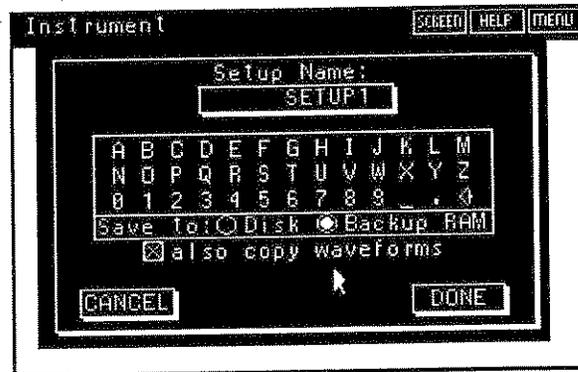
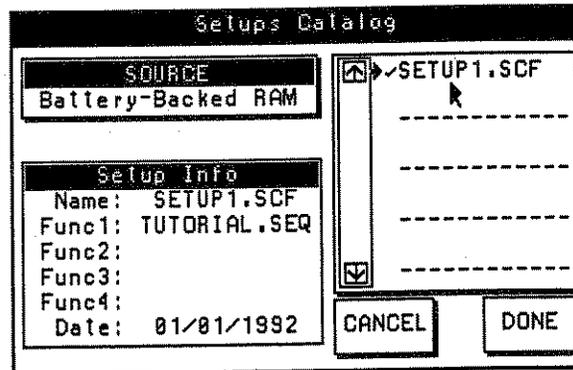

Figure 4-66. Setup Name
Figure 4-67. Setups Catalog
Selecting Store from the list saves the current complete instrument setup including system settings and all Arb Channel settings. If any of the Arb Channels use the Functions: Waveform or Sequence, the Stored Setup does not automatically store the Waveform or Sequence on the Arb Channel. However, selecting "also copy waveforms" in Figure 4-66 will ensure that stored waveforms are located at the same destination as the stored setup so that they can be found. For example, if a Waveform is stored on a disk, the
Model 295 loads the waveform from disk when the Stored Setup is recalled. When you select "Store" from the Stored Setup menu, the Model 295 asks you to enter a name. Figure 4-66 illustrates the Setup Name screen and the following text describes its items. The Model 295 automatically appends the Setup file with the extension .SCF.
Selecting Recall from the Stored Setups menu allows you to do a complete instrument setup or configuration. A complete instrument setup includes system settings and Arb Channel settings. If any of the Arb Channels use the Functions: Waveform or Sequence, the Stored Setup may not include the Waveform or Sequence, but it does remember the storage location of the Waveform. For example, if a Waveform is stored on a disk, the Model 295 expects to find the waveform on the disk. If the waveform is not on the disk, an error message is displayed and recall aborted. This can generally be avoided by checking "also copy waveforms" when creating the Stored Setup (see Figure 4-66).
When Recall is selected, the Model 295 displays the Setups Catalog; see figure 4-67. The Model 295 appends Setup files with the file extension .SCF.
1. The Stored Setup will contain the name of the Waveform or Sequence, not the actual data itself. The location of the actual Waveform or Sequence file is assumed to be the same as from where the Stored Setup is being recalled (Battery Backed RAM or Disk). This is generally assured by using the "also copy waveforms" check box in Figure 4-66. If it is not, an error message will be displayed, and the recall setup will be incomplete. The setup state of the channel which was to load the Waveform or Sequence will be in an unknown state. It is best to perform a reset on the channel to set it to a known state (see Instrument-Reset).
When Copy is selected the Setups Catalog (Figure 4-67) appears. From the Setups Catalog, select the Setup you want to copy. Next, select OK to advance to the Setup Name screen; see figure 4-66.
Selecting Delete displays the Setups Catalog; see figure 4-67. Select the Setup you want to delete.